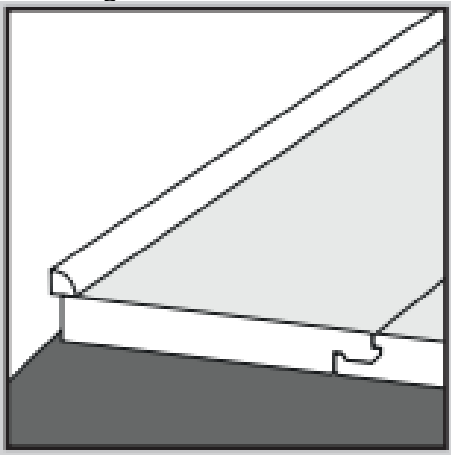

Figure 9
- 9) Once the floor is installed, remove the spacers; sweep the floor with a soft brush. Fix the skirting/base boards or suitable edge trim (available from your local distributor) to cover the expansion gaps. These should be attached to the wall and not the floor, such that the product remains free to expand (Fig. 9 & 10).